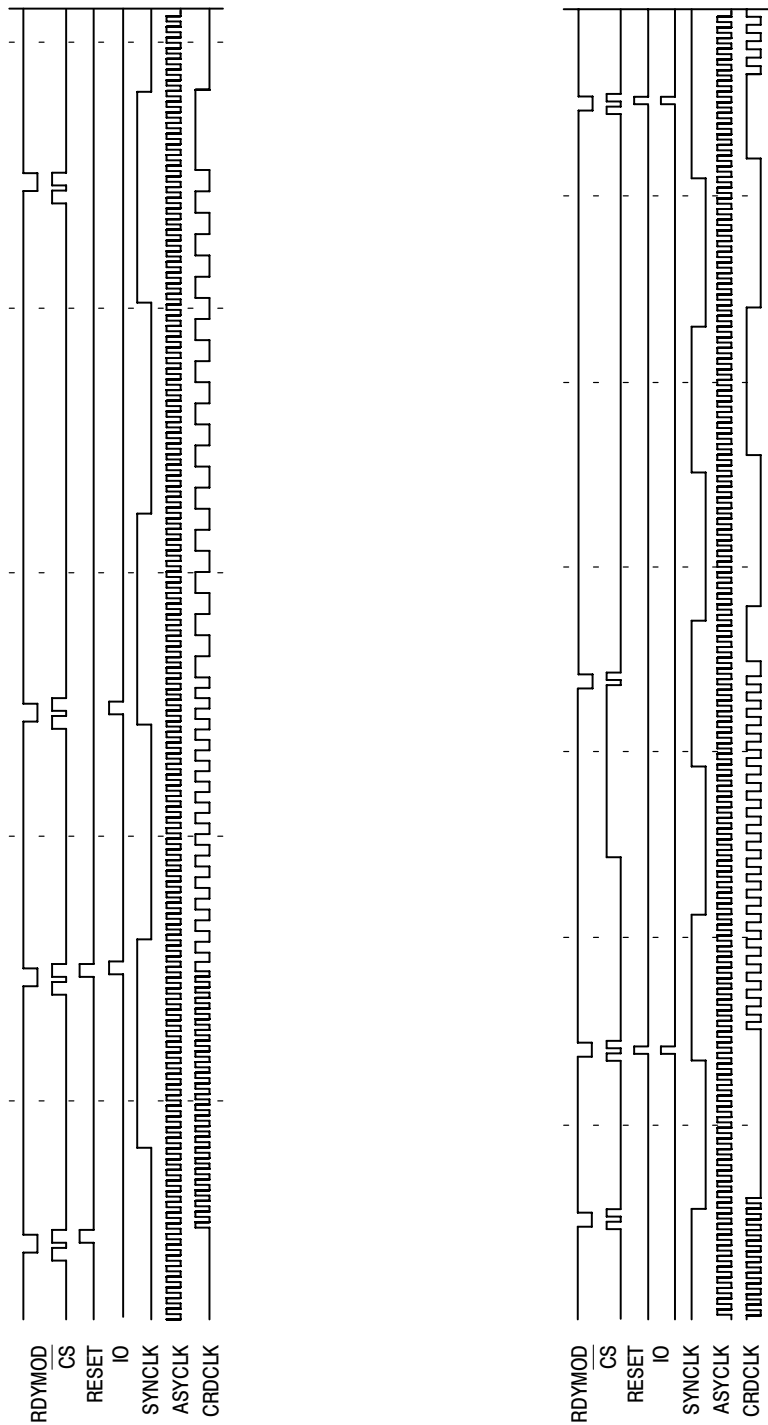

Figure 29. “On-the-Fly” Card Clock Selection Examples
Clock Signal Synchronization and Consistency (Figure 29). The clock divider includes synchronization logic that controls the switch from synchronous clock to asynchronous (and vice-versa), from any division ratio to any other ratio, during \overline{CS} changes and at powerup. The synchronization logic guarantees that each clock cycle on the **CRDCLK** pin is finished before changing clock selection (and has always the adequate duration), regardless of the moment the programming is changed.
- Consistent clock signal, even when division ratio or synchronization clock signal are changed “on the fly” during a card session (Figure 29)